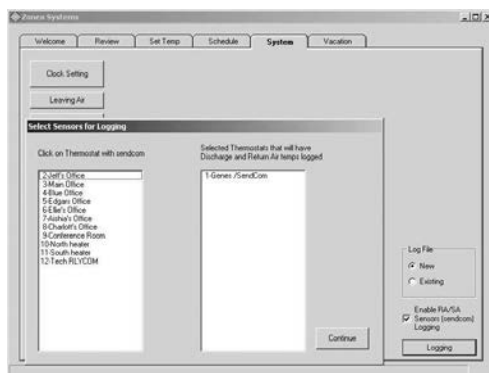

Fig. 29
- A. Click on the box labeled **Enable RA/SA Sensors (SENDCOM) Logging**. This will open another box, which lists all thermostats in your system (see Fig. 29).